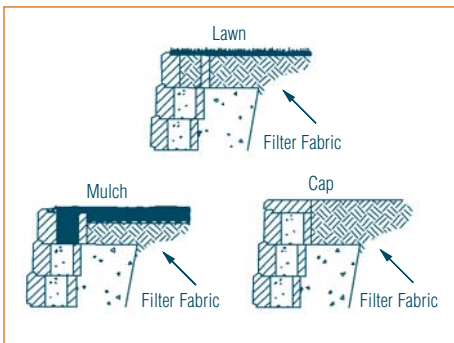

Figure 12: Ending & Topping Walls
- AB's patented raised front lip provides a built-in edging for landscape rock, mulch, grass, soil or AB Cappers (Figure 12). Place filter fabric between the drainage zone and landscaped zone.